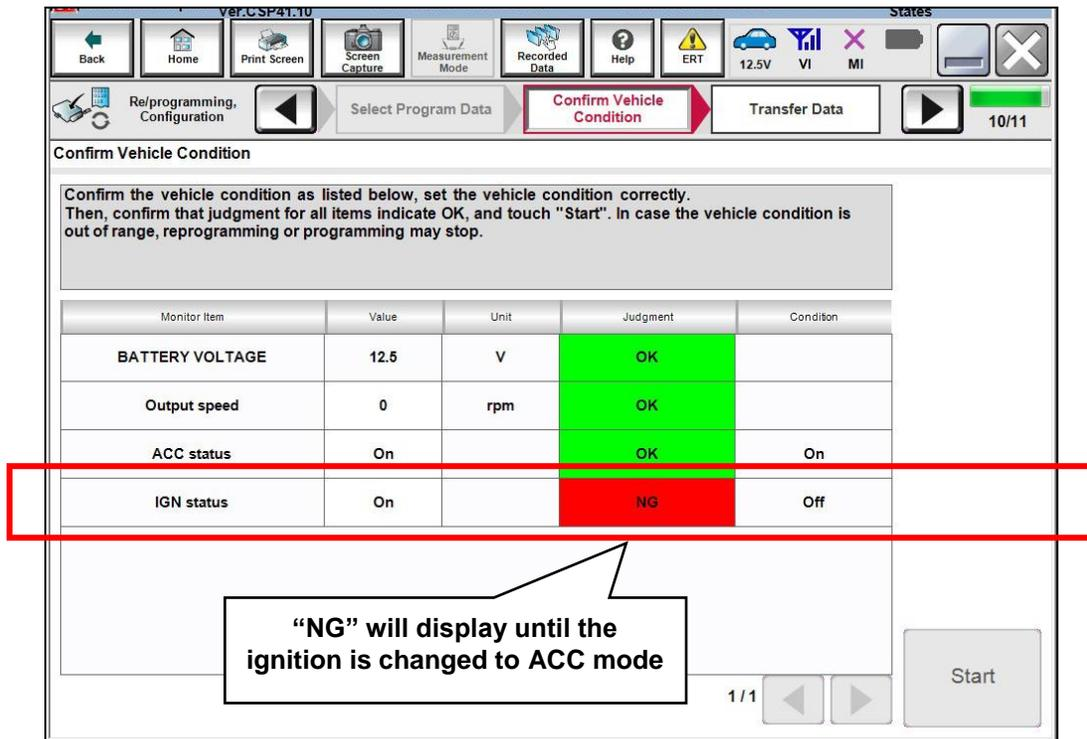

Figure 14
- Make sure the IGN status judgement changes to **OK**. See Figure 14 & 15.